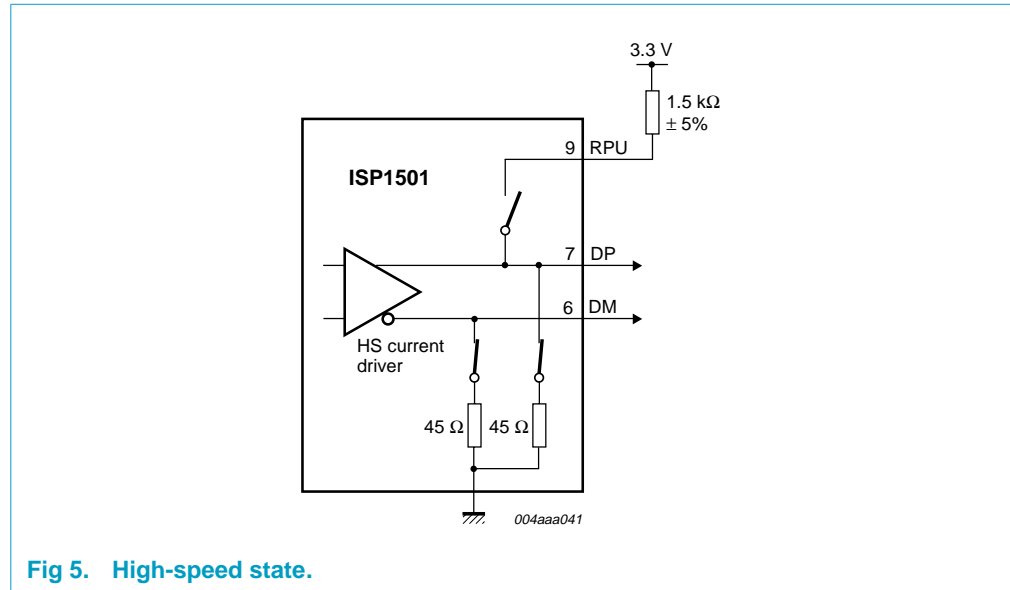

Fig 5. High-speed state.
8.2.3 High-speed (HS) state
In the high-speed (HS) state, internal $45\ \Omega$ resistors on the DP and DM lines are connected to the ground. The pull-up resistor is disconnected. The HS transceiver is enabled, and the parallel interface and the HS-handshake signals are used (see Figure 5).